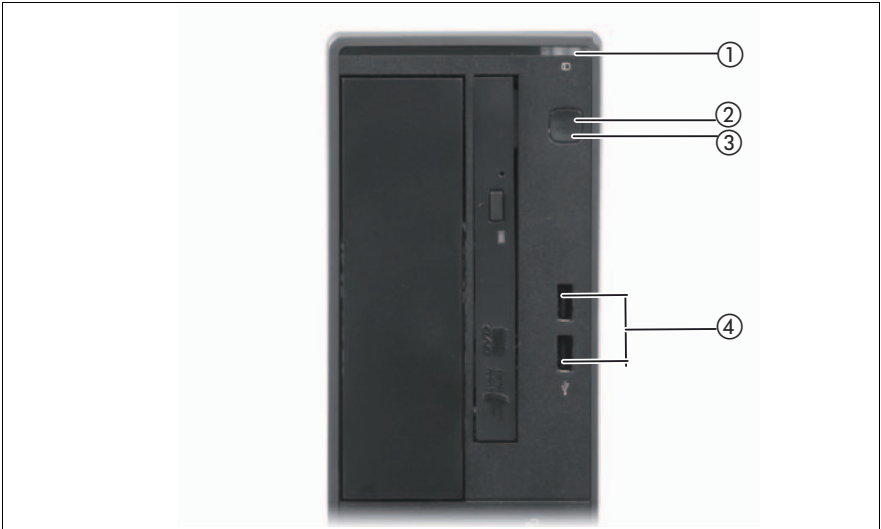

Figure 10: Front side (indicators and controls)
The power-on indicator (item 2 in figure 10 on page 53) lights green.
- ▶ Press the On/Off button (item 3 in figure 10 on page 53).
The power-on indicator lights green (item 2 in figure 10 on page 53).
Power-on indicator (item 2 in figure 10 on page 53) lights green.